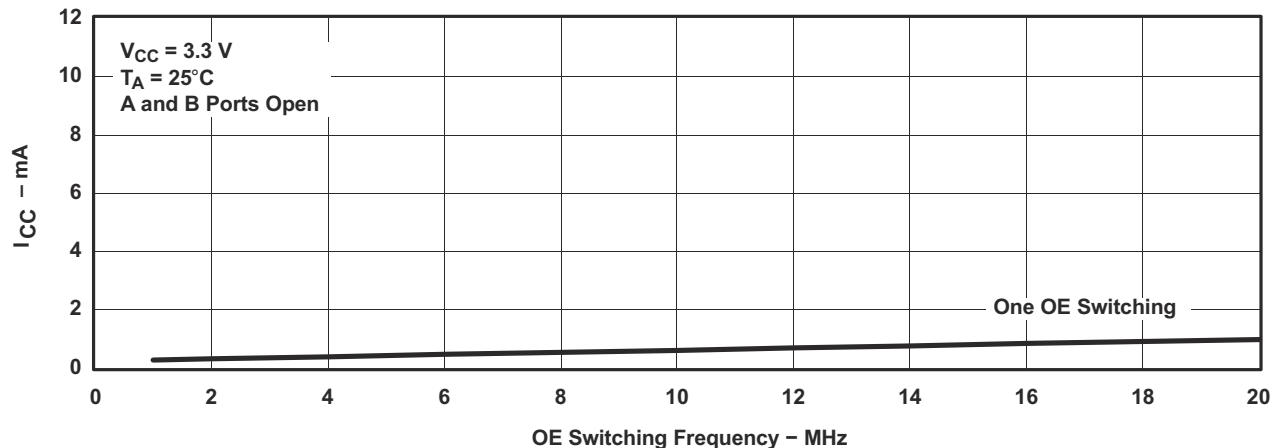

Figure 8-2. Typical I_{CC} vs OE Switching Frequency
(1) V_{IN} and I_{IN} refer to control inputs. V_I , V_O , I_I , and I_O refer to data pins.
(2) All typical values are at $V_{CC} = 3.3\text{ V}$ (unless otherwise noted), $T_A = 25^\circ\text{C}$.
(3) For I/O ports, the parameter I_{OZ} includes the input leakage current.
(4) This is the increase in supply current for each input that is at the specified TTL voltage level, rather than V_{CC} or GND.
(5) This parameter specifies the dynamic power-supply current associated with the operating frequency of a single control input (see Figure 8-2).
(6) Measured by the voltage drop between the A and B terminals at the indicated current through the switch. ON-state resistance is determined by the lower of the voltages of the two (A or B) terminals.